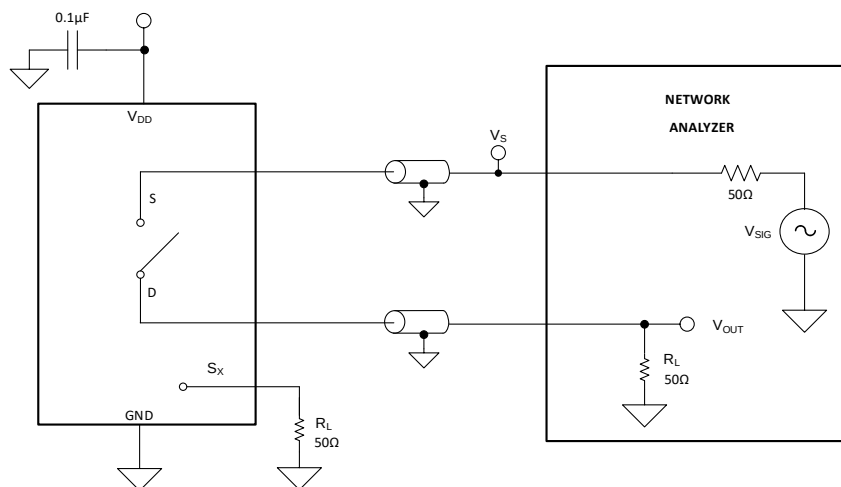

Figure 25. Off Isolation Measurement Setup
Off isolation is defined as the ratio of the signal at the drain pin (D) of the device when a signal is applied to the source pin (Sx) of an off-channel. Figure 25 shows the setup used to measure, and the equation used to calculate off isolation.